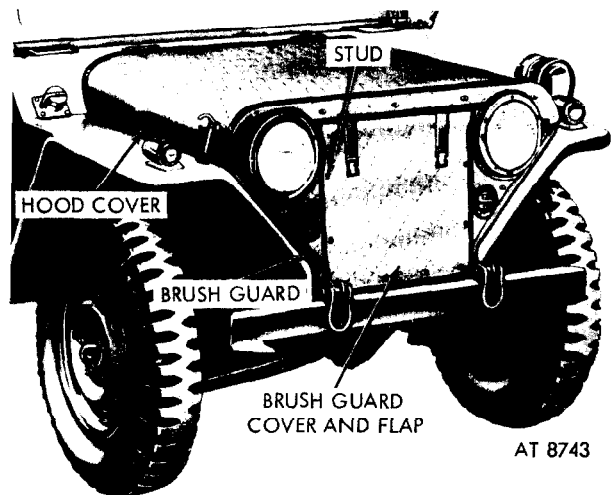

Figure 4-3. Brush guard cover.
*e. Brush Guard Cover and Flap (Fig. 4-3).* A cover on the radiator brush guard controls the flow of cold air through the radiator and protects the engine from windblown snow. A flap in the cover can be opened to admit air for engine cooling. When not installed on the brush guard, the cover is stowed behind the
*j. Brush Guard Cover.* The cover (fig. 4-3) is mounted on the radiator brush guard with